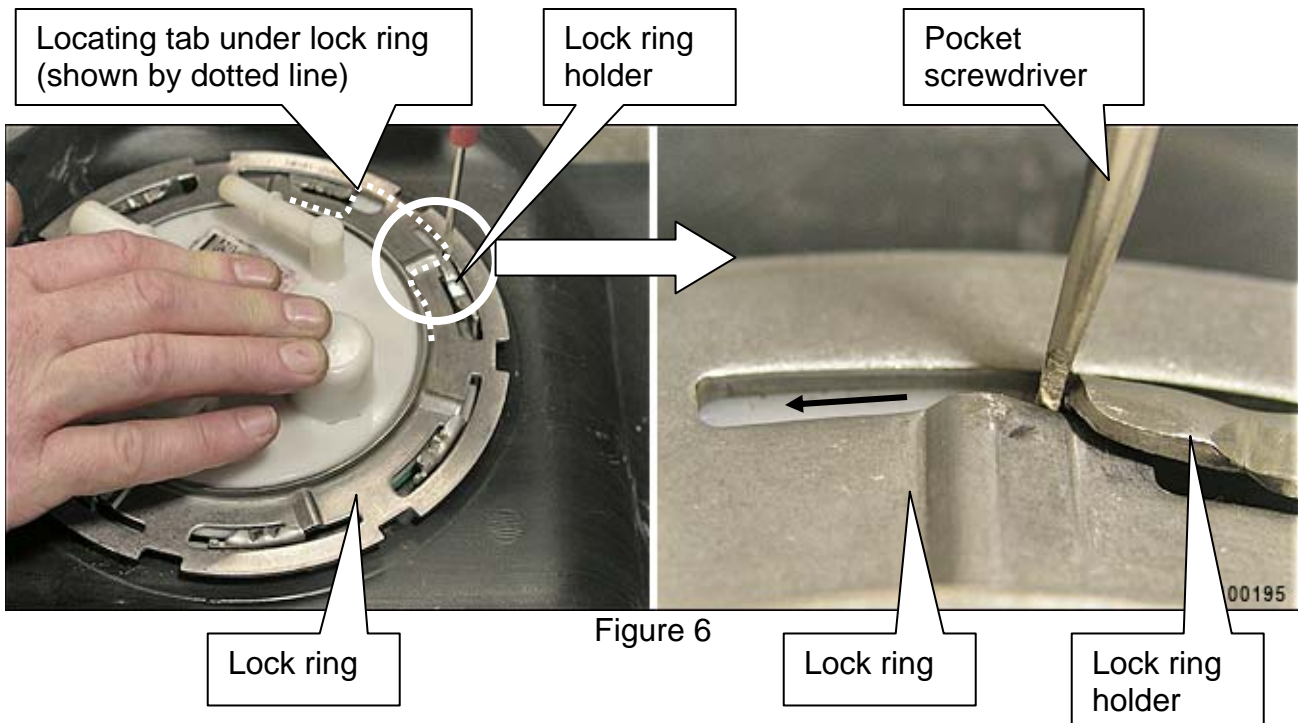

Figure 6
- c. Insert a pocket screwdriver between the fuel pump assembly plastic locating tab and the lock ring holder as shown in Figure 6.